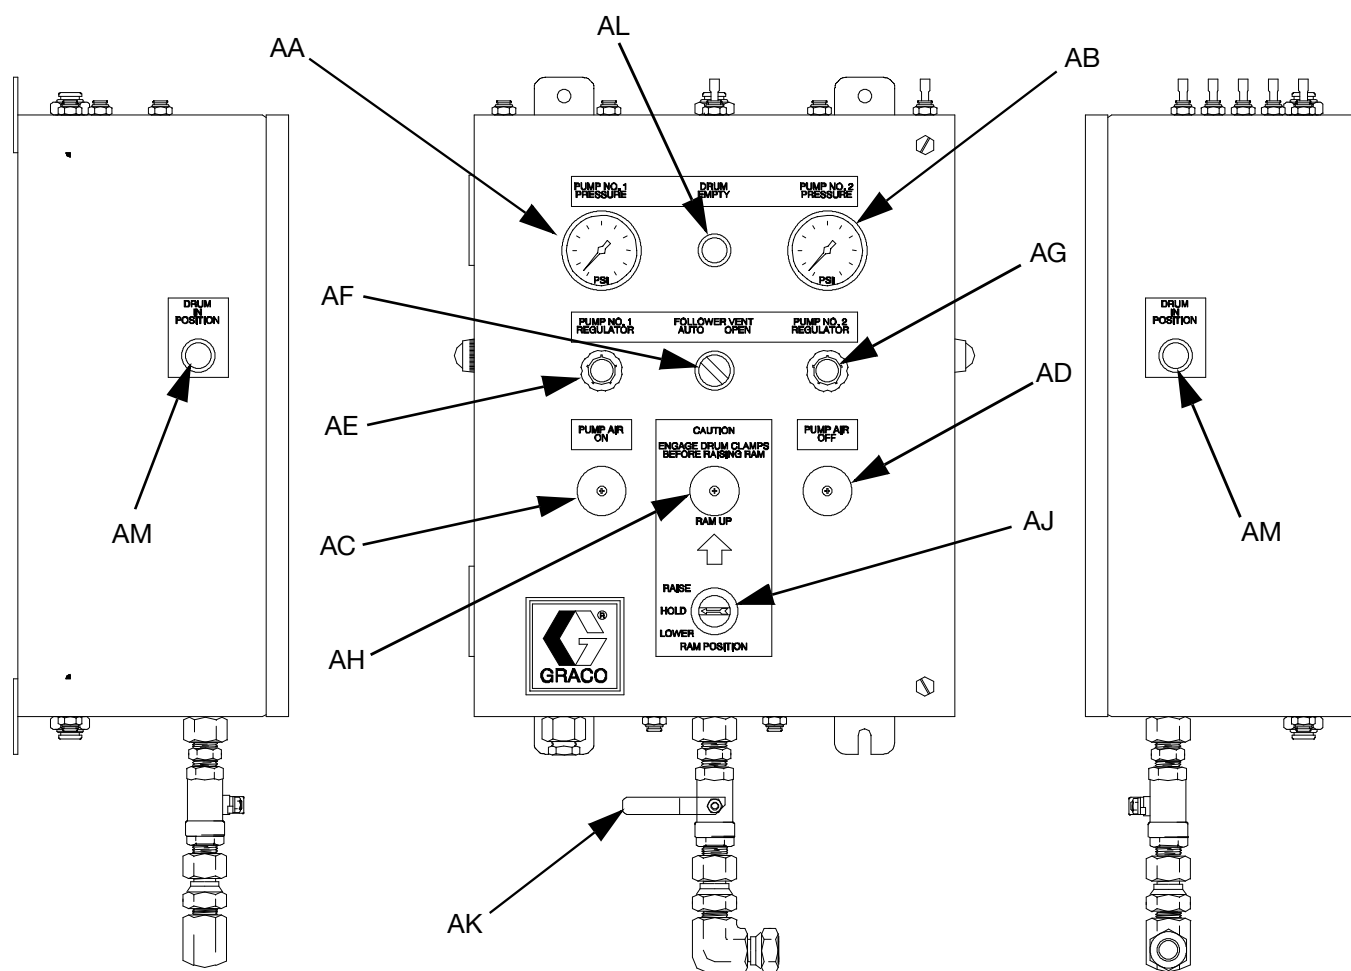

**FIG. 1: UniDrum Supply System with XL 10000 Air Motors**
**NOTE:** FIG. 1 shows the typical UniDrum Supply System equipped with XL 10000™ air motors.
See FIG. 1 on page 10.